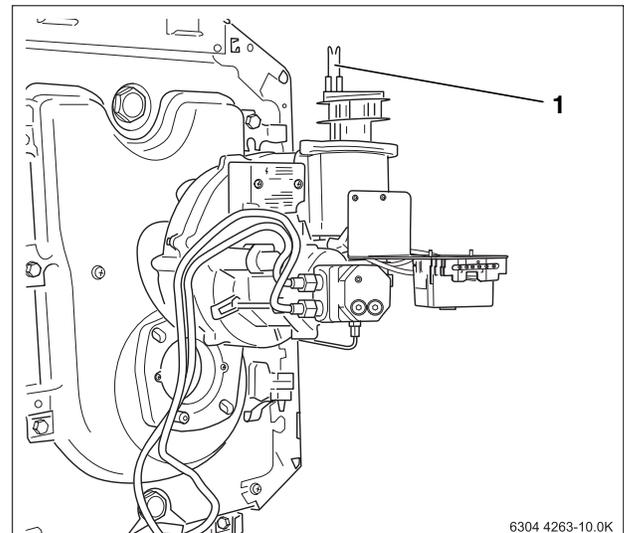

Fig 25 Place burner in service position
Servicing the burner is simplified when bringing it into the Service Position (Fig.25).
- Remove and hang the burner as shown in Fig 25.
The ignition electrodes (Fig. 25, **Item. 1**) must be free of any build-up.